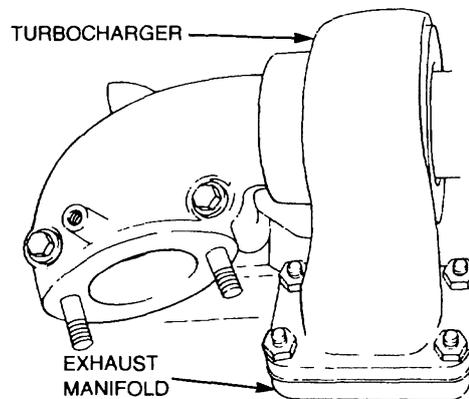

Figure 48 Turbocharger to Manifold Removal
- g.** Remove the nuts securing the turbocharger to the exhaust manifold and the two bolts securing the exhaust adapter to the manifold. Carefully remove the turbocharger (Figure 48).